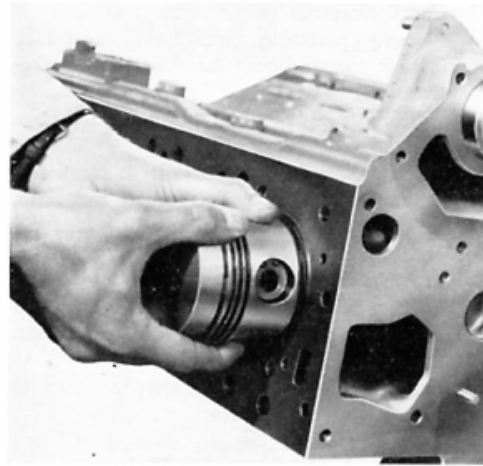

Fig. H.2.
4. Push the pistons and connecting rods through the top of the block and remove as shown in Fig. H.2.